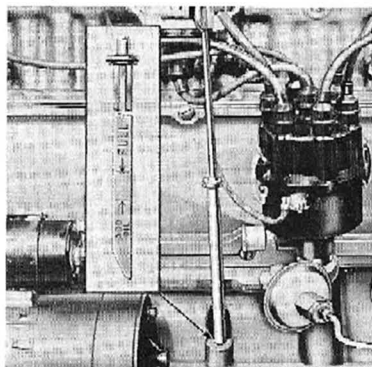

Fig. 23—Checking Engine Oil Level
1. Raise the hood, remove the oil gauge rod (fig. 23), wipe oil from rod with clean cloth and replace. Remove gauge rod and note level of oil. If down to the "add oil" mark, oil should be added. Replace oil gauge rod. See "Lubrication" for proper oil to be used.